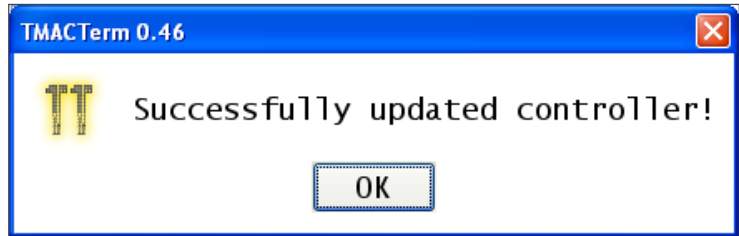

Fig. 29
21. A confirmation dialog box appears. Click *OK* (Fig. 29).